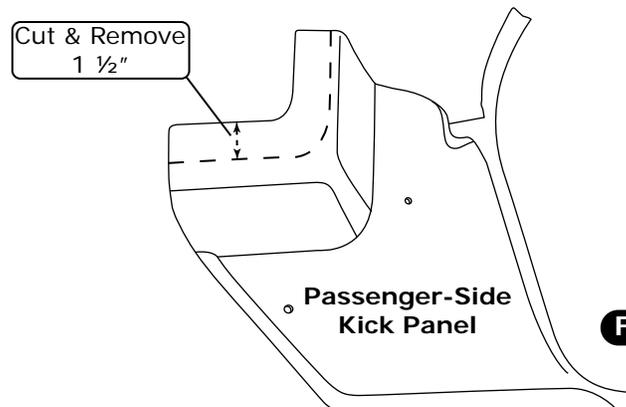

Figure 2
5. Modify the passenger-side kick panel as shown in Figure 2, below.